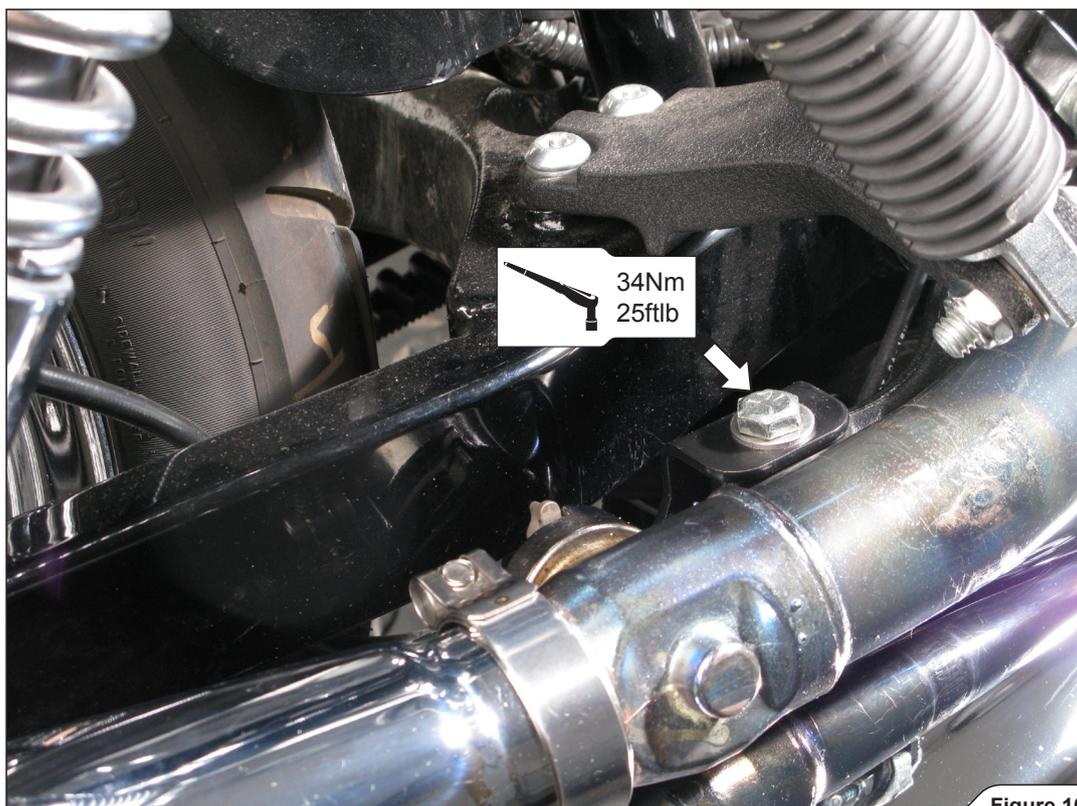

Figure 10
- Tighten the mufflers' bracket to the specified torque (Figure 10).